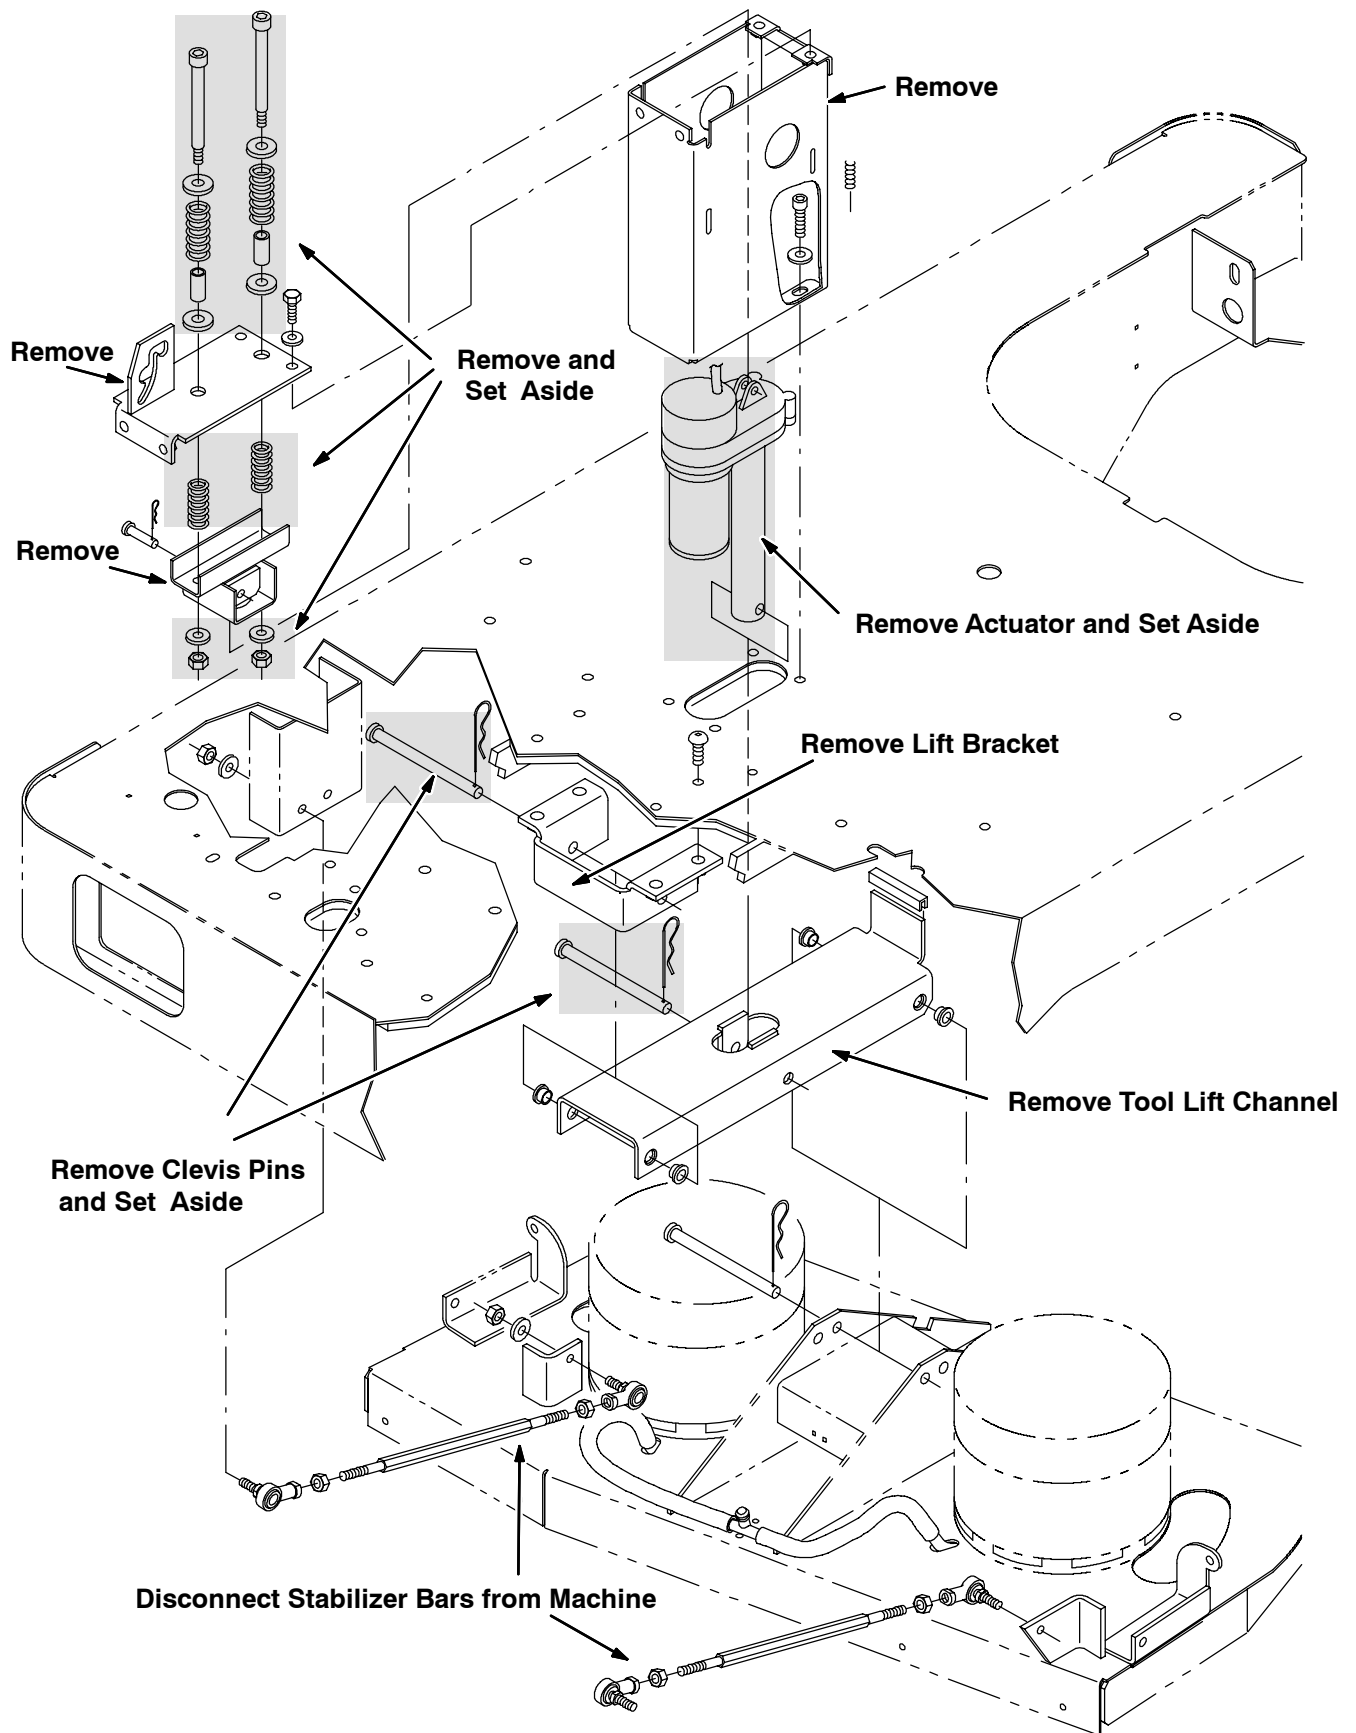

FIG. 3-Scrub Head Lift Group Removal
2. Locate the tool lift channel weldment underneath the machine. Refer to Fig. 3.
3. Remove the two front clevis pins from the tool lift channel weldment, disconnecting the tool lift channel weldment from the machine and the actuator. Set the pins aside. Refer to Fig. 3.
6. Disconnect the two stabilizer bars from the machine. Refer to Fig. 3.
17. Remove the lift bracket from underneath the machine and four screw buttons mounting it to the machine. Refer to Fig. 3.
3. Remove and set aside the two front clevis pins with their cotter pins from the tool lift channel weldment. Refer to Fig. 3.
13. Reinstall the drive motor to the brush head group. Refer to Fig. 3.
14. Remove the lift bracket from underneath the machine and four screw buttons mounting it to the machine. Refer to Fig. 3.
11. Remove the seat prop weldment and spring mount from the top of the actuator support bracket. Disassemble the actuator and spring mountings from the channel weldment. Set the springs and sleeves aside. Refer to Fig. 3.
12. Remove the actuator support bracket and mounting hardware from the machine. Refer to Fig. 3.
18. Connect the stabilizer bars back to the machine. Refer to Fig. 3.